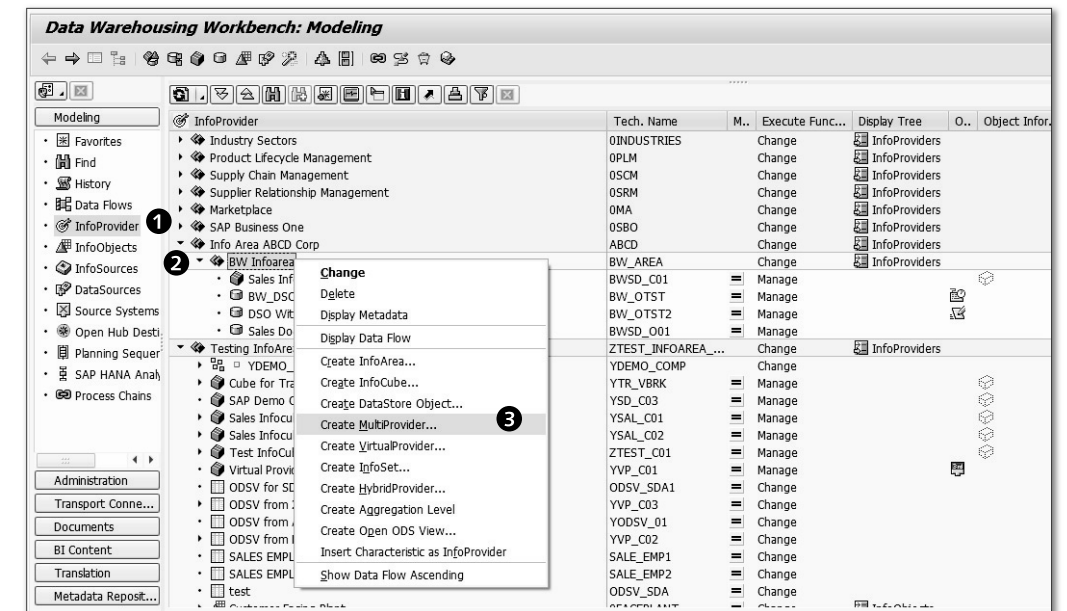

Figure 6.3 Creating a MultiProvider
From the DATABASE WAREHOUSING WORKBENCH screen (Transaction RSA1), select INFOPROVIDER from the MODELING section, as shown in ❶ of Figure 6.3. A MultiProvider is created under an InfoArea, so select BW_INFOAREA ❷. Open the context menu of BW_INFOAREA, and select CREATE MULTIPROVIDER ❸.